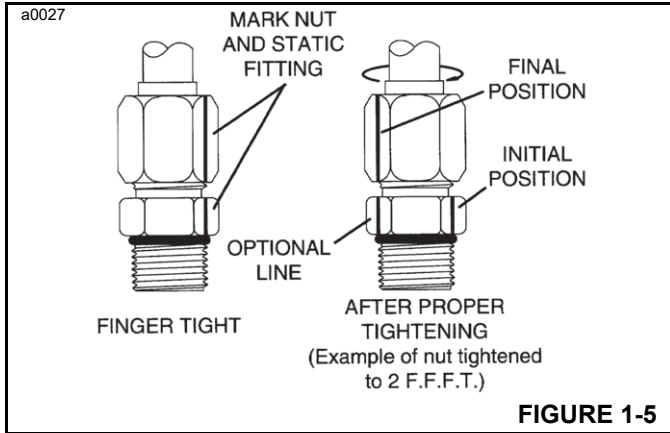

FIGURE 1-5
6. Optional for future tightening of the same connection.) Extend the line from the nut at its new location onto the hex of the static fitting or port (Figure 1-5).